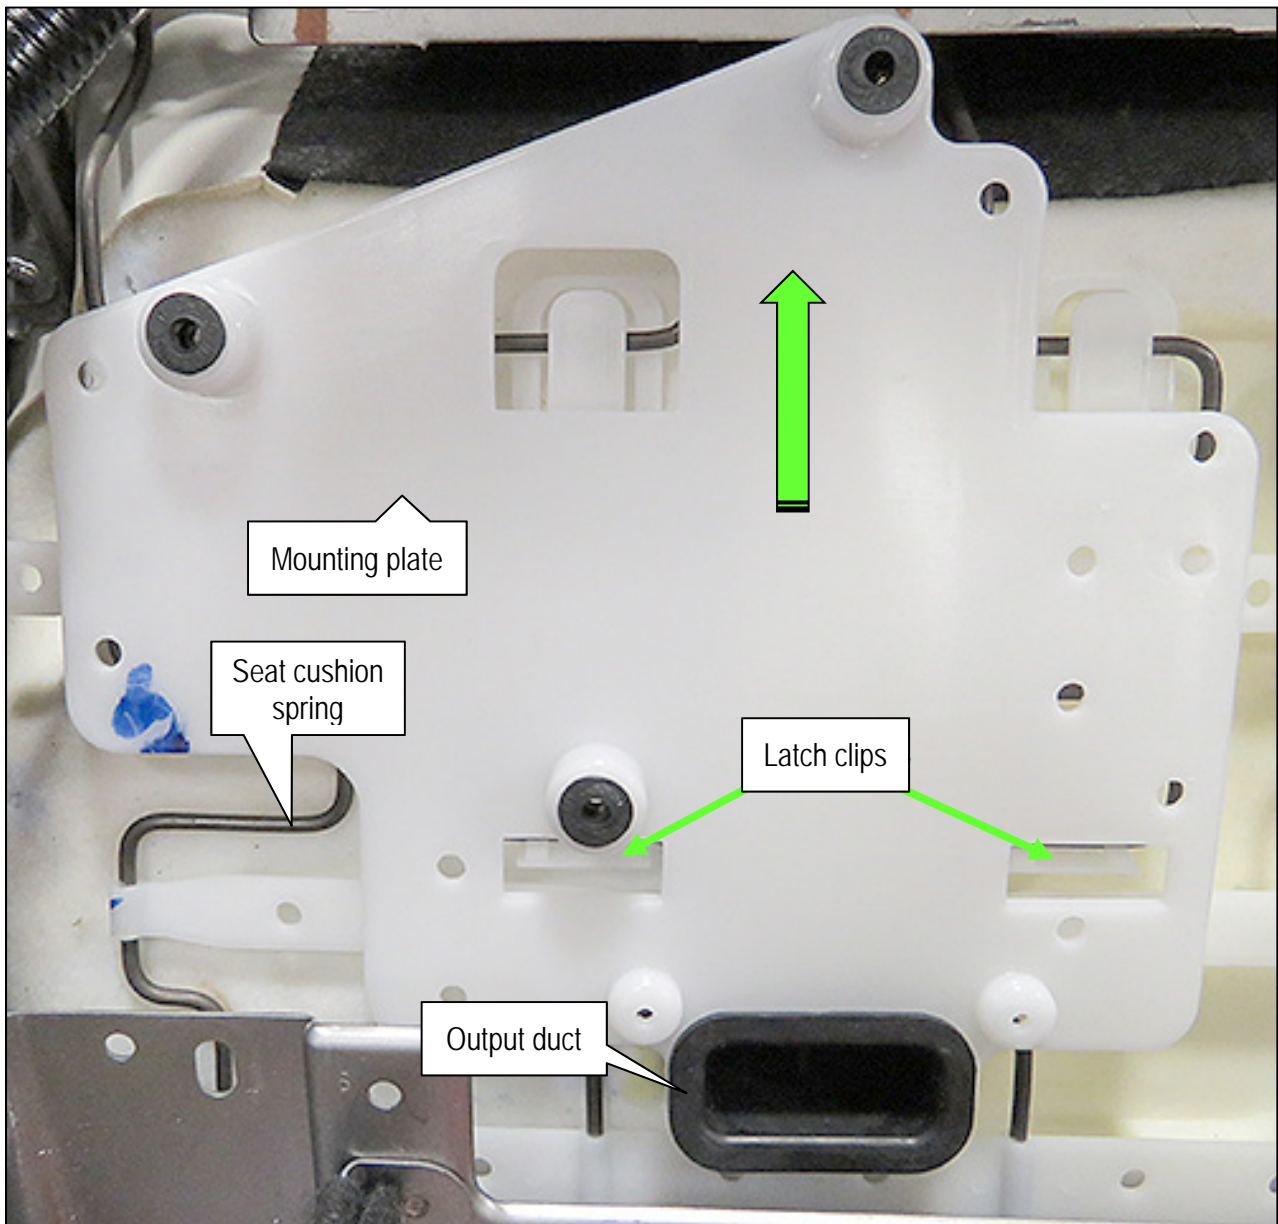

Figure 8
15. Remove the output duct, as shown in Figure 8.
- a. Gently push the two (2) latch clips, one at a time, toward the seat cushion to release them from the seat cushion springs.
- b. Slide the mounting plate in the direction indicated in Figure 8.
- c. When the two (2) latch clips have cleared the seat cushion springs they were clipped to, lift the mounting plate away from the seat assembly.